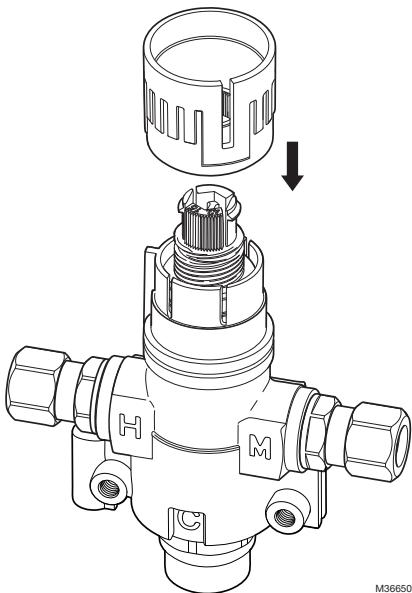

Fig. 4. Place handwheel on adjustment rod.
3. Use the cap upside down to adjust the outlet temperature with a thermometer under the faucet. Turn the hand wheel clockwise for cooler temperatures and counter-clockwise for warmer temperatures. See Fig. 4 and 5.